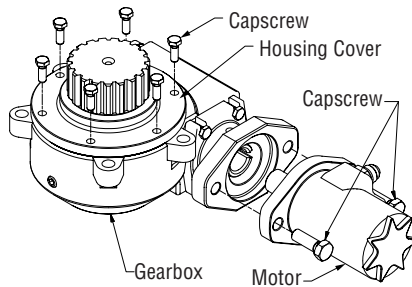

Figure 5-5, Motor Removal
3. Place the gearbox on a flat surface and remove the motor mounting capscrews. Note: Coupling fits loosely and may slide out. (Figure 5-5)